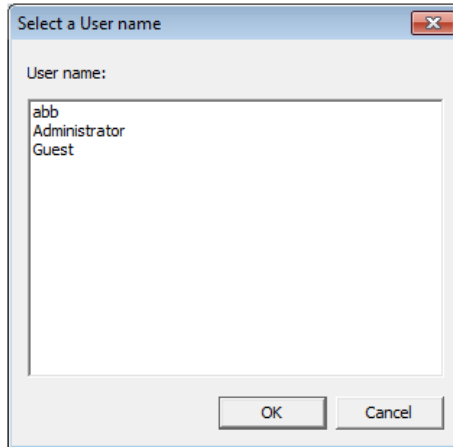

Figure 28. Select a User Name Dialog Box
- j. A Select a User Name dialog box similar to the one shown in Figure 28 appears. Select the Service User.